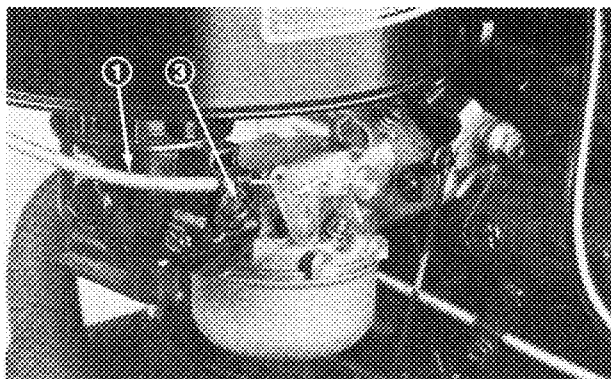

Figure 7
3. Loosen cable clamping screw allowing cable installation, but do not tighten (Fig. 7).
4. Pull firmly on choke cable and tighten cable clamp screw (Fig. 7).